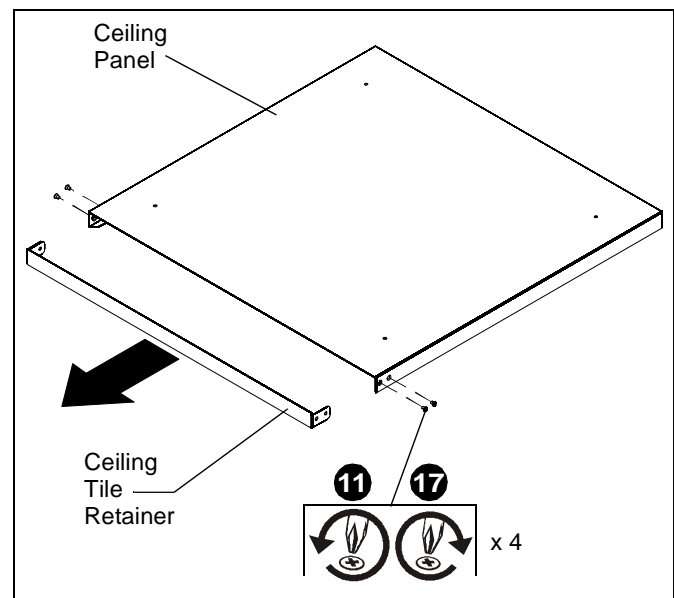

Figure 8
9. Use the provided push button (B) to operate the SL236SPi up and down, ensuring that all clearances are adequate.
11. Remove four screws and the ceiling tile retainer from the ceiling panel. (See Figure 8)
17. Re-install ceiling tile retainer to ceiling panel and secure with four screws removed in Step 10. (See Figure 8)
18. Use the provided push button (B) to operate the SL236SPi up and down, ensuring that all clearances are adequate after the ceiling has been finished.